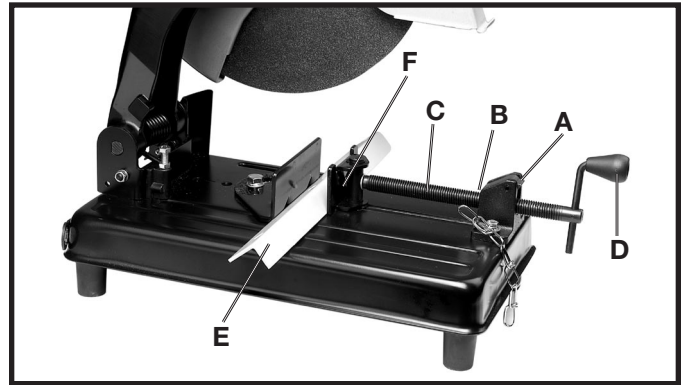

Fig. 9
3. Push in on screw handle (D) Fig. 9, until front vise clamp (F) contacts workpiece (E).
4. Rotate lever (A) Fig. 9, to engage half-nut (B) with screw (C) and tighten screw handle (D) to securely clamp workpiece in vise.